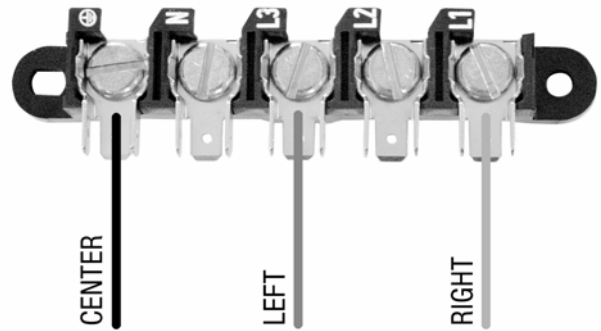

Fig. 8
- Attach the power cord ground conductor (green wire) to the ground terminal marked with the ground symbol. Tighten screw until ground conductor is secure. (See Fig. 8)
- Attach the two remaining power cord phase conductors ( left = black wire and right = red wire ) to the phase terminals (marked L3 & L1). Tighten screws so that the power conductors are secure. (See Fig. 8)